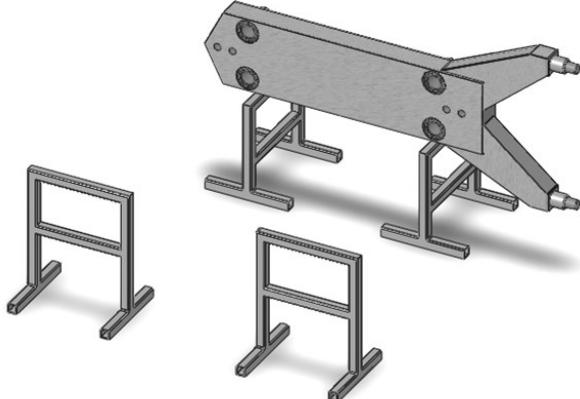

Figure 6-1
1. Place the fixed end assembly on the two 19" jack stands (see figure 6-1). The jack stands should be located near the ends of assembly as shown. Position the two 25 $\frac{3}{4}$ " tall jack stands as shown. Depending on the size frame you are assembling the actual distance from the fixed end will vary. These stands will support the rails and should be located so they are opposite from the rail holes in the fixed end.